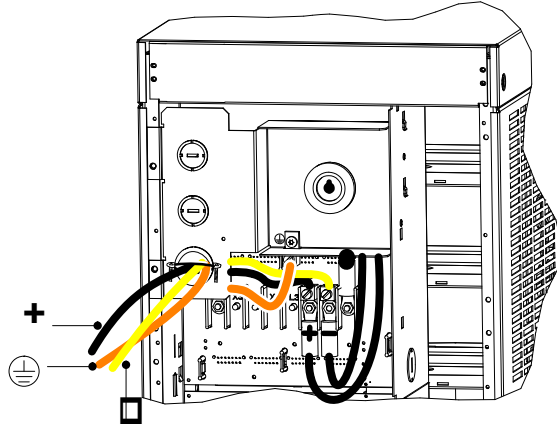

Figure 46. Battery Cable Installed in Battery Cabinet
- 16.** If the battery cable will be installed in flexible or other conduit, pull the conductors through the conduit. Attach the conduit to both the UPS power entrance panel and the battery cabinet entrance panel as shown in Figure 46.
17. Secure the +, the □ and the ⊖ conductors to the proper compression lugs on the battery cabinet backplane as shown in Figure 46. Torque all three compression lugs to 8.5–9.6 Nm (75–85 lb in).